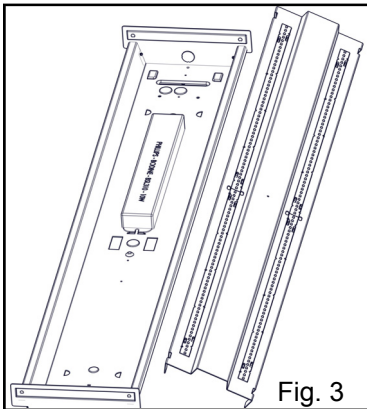

Fig. 3
5. Remove tether cable from housing and disconnect LED power cable from LED driver. (place tray in safe place to avoid damage) Fig.3